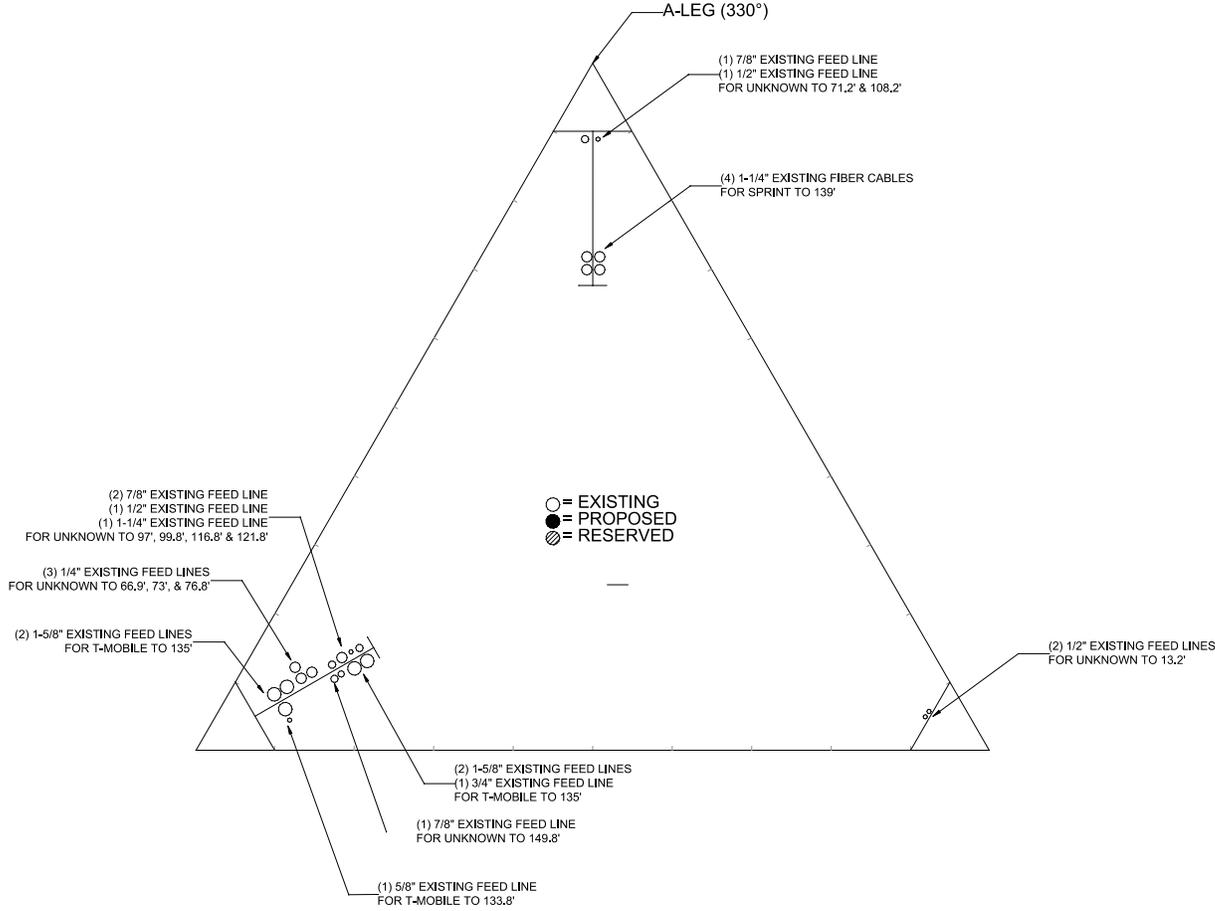

Figure 1: Feed Line Layout
1. Feed lines to be installed as shown in **Figure 1** in the **Appendix**.